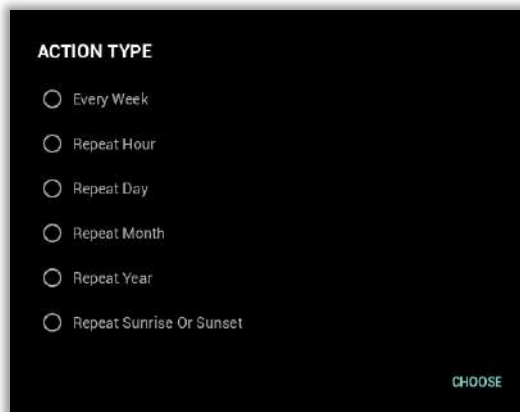

Fig. 25 : Create Schedule - Add Schedule Time Action Type Selection
- 1 This touch button is pressed to set the frequency of the schedule. Selection is made from the list in Figure 25.